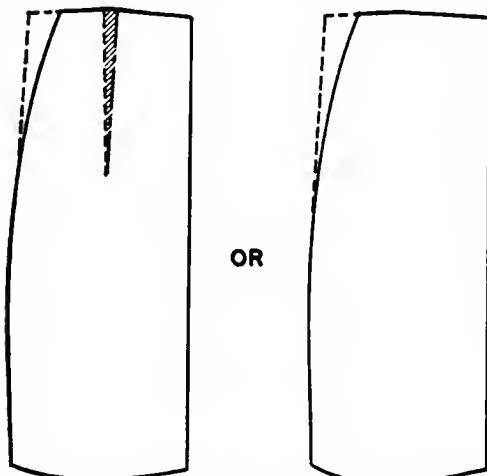

Fig. 51. To make a skirt waist larger.
- B. To make a skirt waist larger: Slash between the dart and the side seam, spreading the slash the desired amount; or, add on the side seam from the top of the skirt to the hip (Fig. 51).